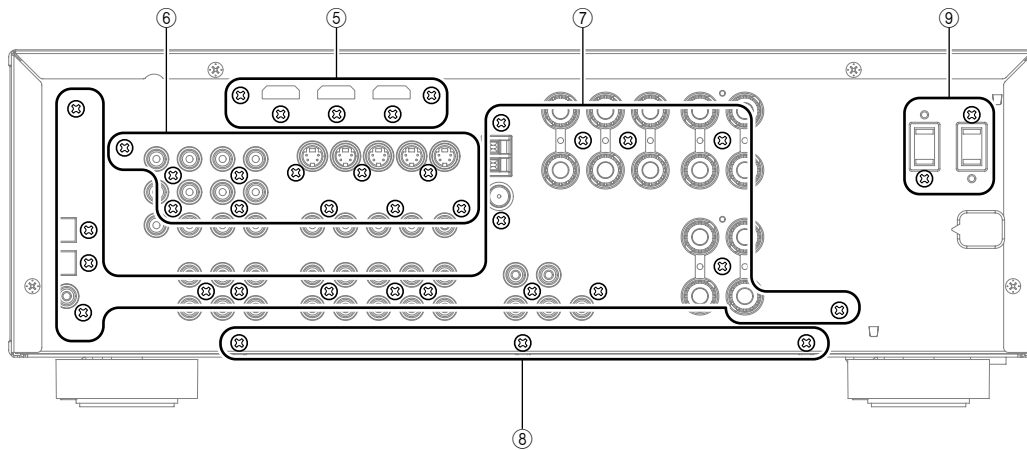

Fig. 3
- b. Remove 5 screws (⑤). (Fig. 3)
- b. Remove 11 screws (⑥). (Fig. 3)
- a. Remove 18 screws (⑦), 3 screws (⑧) and 2 screws (⑨). (Fig. 3)
- b. Remove 3 screws (⑥). (Fig. 3)